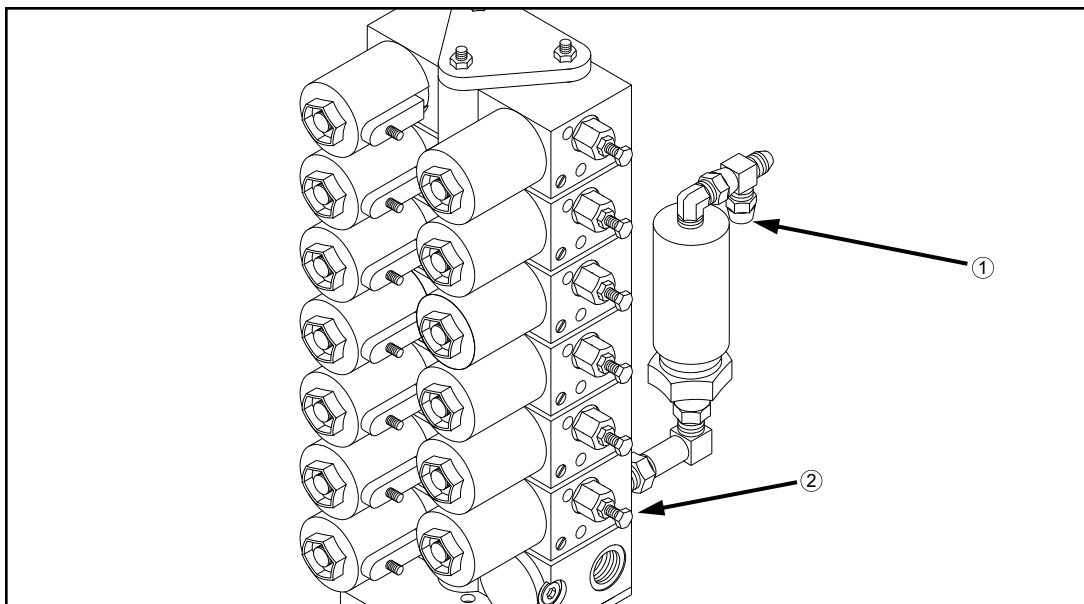

FIG 5.20
Install a 3,000 PSI pressure gauge on the inlet of the electro-hydraulic valve (fig. 5.20, item 1). With the engine running at an idle, raise each unit one at a time with the Tasseltrol® box while in “MANUAL” mode. Observe the pressure. Adjust each lift cylinder to 1000 PSI.
To increase the pressure of a given lift cylinder, turn the adjustable screw (fig. 5.20, item 2) on the raise orifice clockwise. To decrease the pressure of a given cylinder, turn the adjustable orifice screw counter-clockwise.